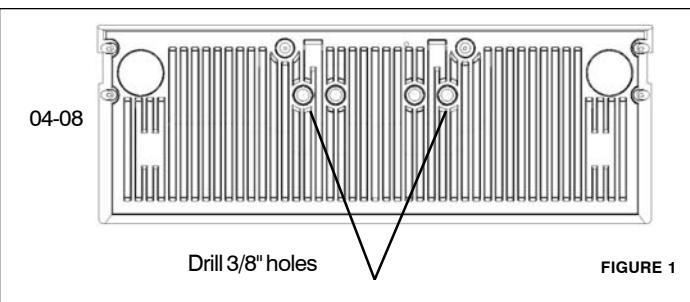
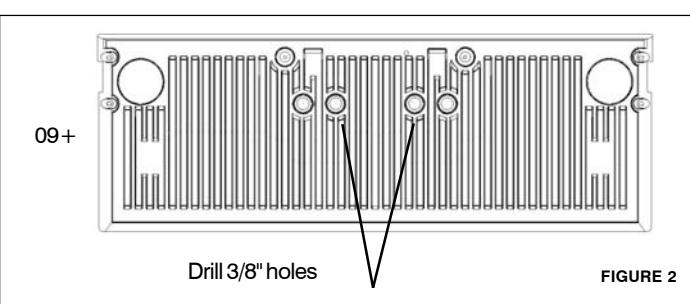

FIGURE 1
FIGURE 2
Drill two (2) outer holes (Figure 1) for 04-08 MY. Drill two (2) inner holes for 09+ MY. (Figure 2)